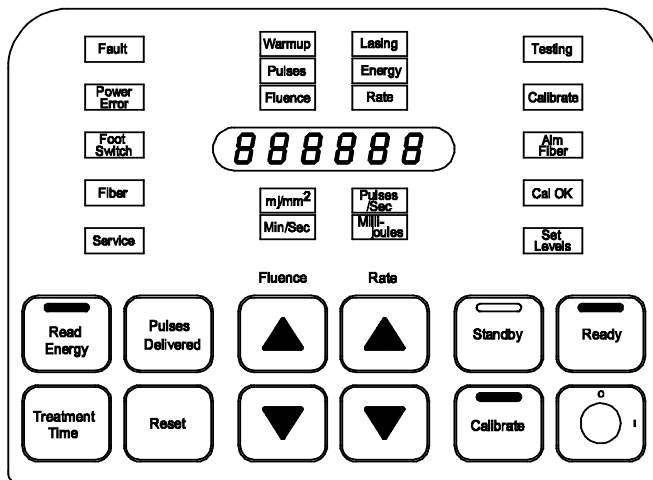

Figure 1
2. The first part of self-test is a control panel lamp test in which all status buttons and advisory lights, except standby, and green status light on top of the control panel are illuminated simultaneously for approximately 5-7 seconds. Six number eights (8) are visible in the display window. (Figure 1)